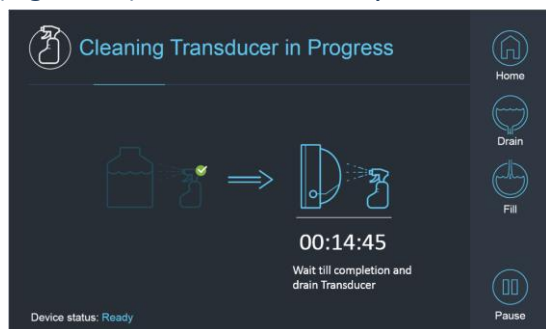

Fig. 3A: "Cleaning Transducer in Progress" Screen **Fig. 3B:** "Cleaning Transducer Complete" Screen
- ☐ Start the "Cleaning Transducer" timer by pressing the "Start" button  on the Screen (Figure 3A) or on the Water System Remote Controller